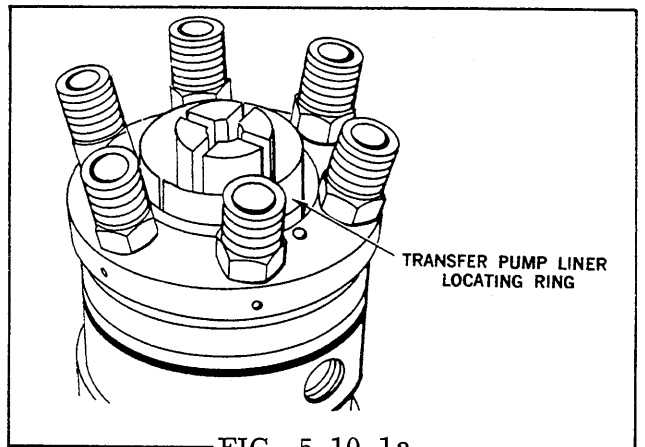

FIG. 5.10.1a
STEP 10.1 Place the liner locating ring over the rotor retainers and bottom it against the head. The liner locating ring for the pressure plate design is a split ring. Position the split in the ring 90° from the split in the retainers. (Fig. 5.10.1a).